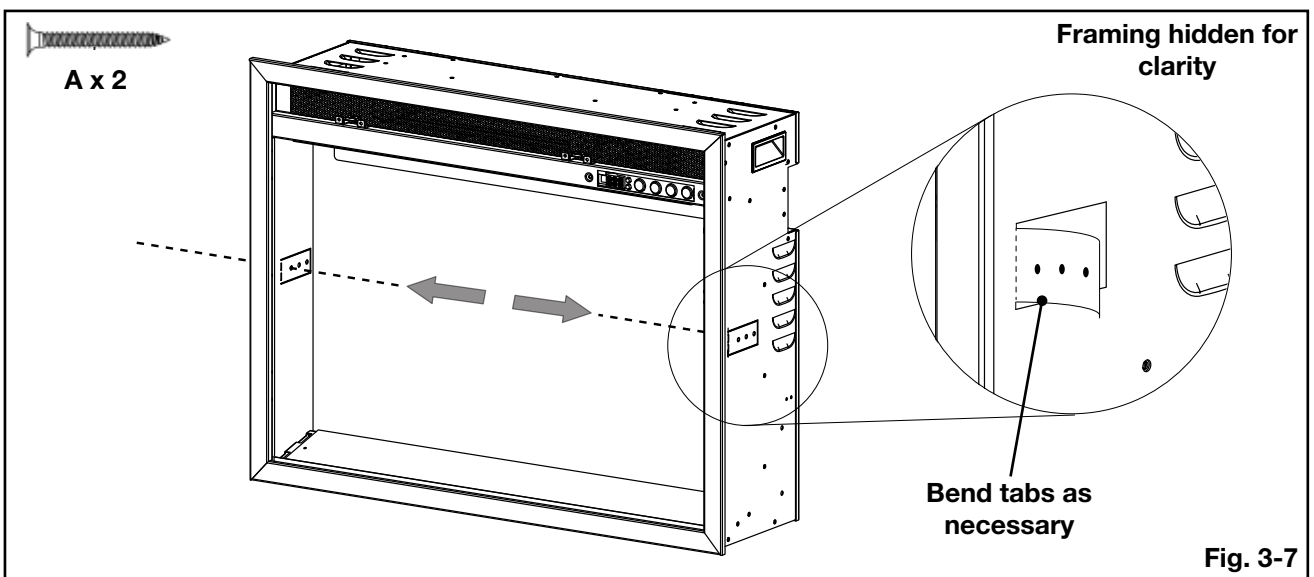

Fig. 3-7
7. Secure the appliance into the opening by installing 1 screw (supplied) through the mounting tab into the framing material, working from inside the appliance (**Fig. 3-7**). Repeat on the opposite side.